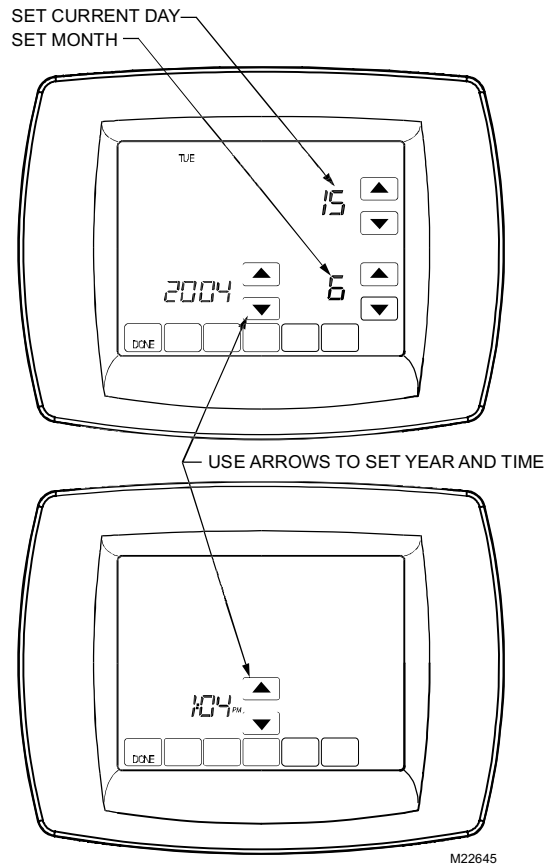

Fig. 14. Setting calendar and time after initial powerup.
This comfort control is designed to automatically keep the current time and day in memory for up to ten years under normal use once the calendar is set. When the comfort control is first powered, the display is ready for the calendar date to be entered. See Fig. 14.
1. Use the arrow keys to set the Year, Month and Day, as shown in Fig. 14.
3. Use the arrow keys to set the current time. See Fig. 14.